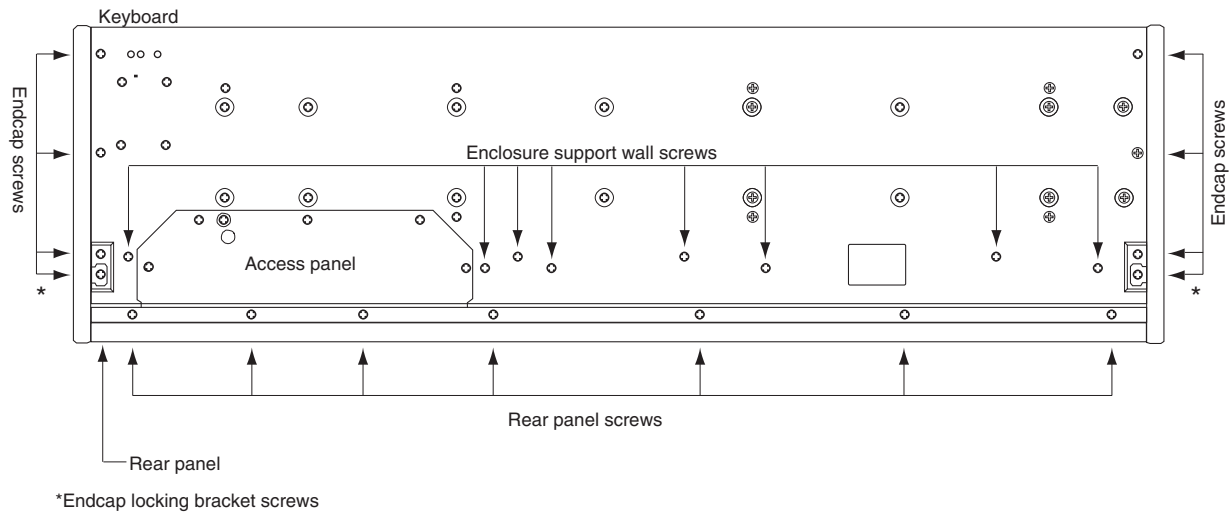
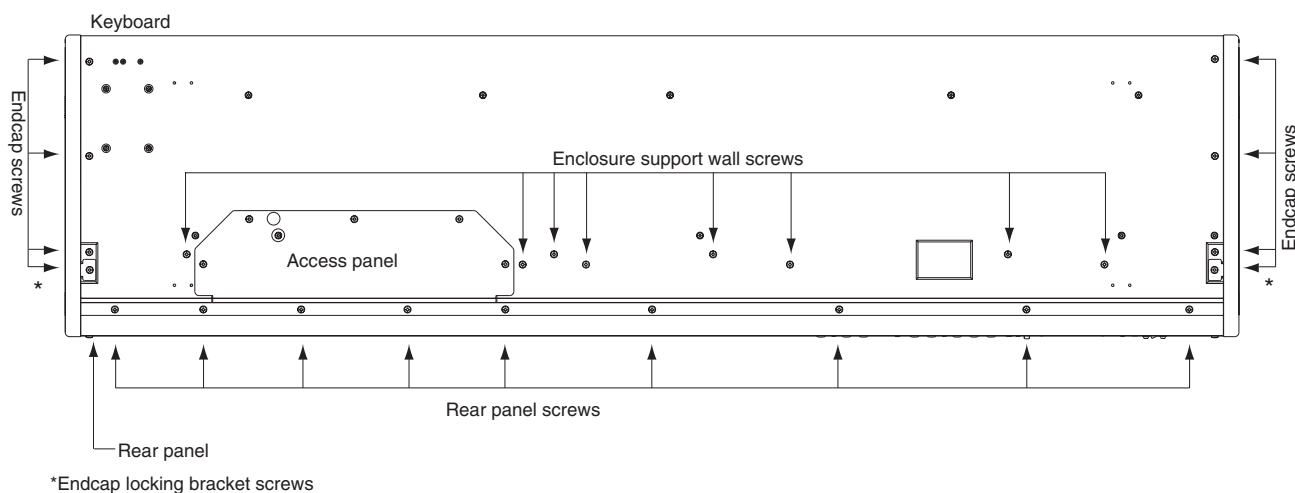

Figure 4-1 PC2 bottom enclosure
Figure 4-2 PC2X bottom enclosure
Refer to Figure 4-1. Arrows indicate the locations of the enclosure support wall, endcap and rear panel screws.
Refer to Figure 4-2. Arrows indicate the locations of the enclosure support wall, endcap and rear panel screws.
4. Refer to Figure 4-1 for the PC2 or Figure 4-2 for the PC2X. Move the unit so that one end hangs over the edge of your work surface. Remove the four endcap screws from the bottom enclosure. One of these screws secures the endcap locking bracket. When you remove the endcap locking bracket screw, the bracket remains loosely in the endcap assembly. Set the endcap safely aside. Repeat for the other endcap.
3. Hold the top enclosure safely in place and move the unit so that one end of the rear panel edge hangs over the edge of your work surface and install the rear panel screw at that end. Slide the unit back onto your work surface. Repeat for other end. Refer to Figure 4-1 for the PC2 or Figure 4-2 for the PC2X.
1. Refer to Figure 4-1 for the PC2 or Figure 4-2 for the PC2X. Tilt the unit up and install the eight enclosure support wall screws.